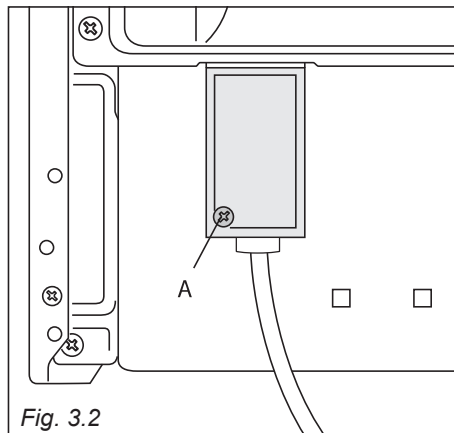

Fig. 3.2
- Remove the screw securing the cover "A" on the rear of the cooker (fig. 3.2).
1. Press in the corresponding knob and turn counter-clockwise (fig. 3.2) to the full flame position marked by the  symbol (fig. 3.1); hold the knob in until the flame has been lit. In the case of a mains failure light the burner with a match or lighted taper.